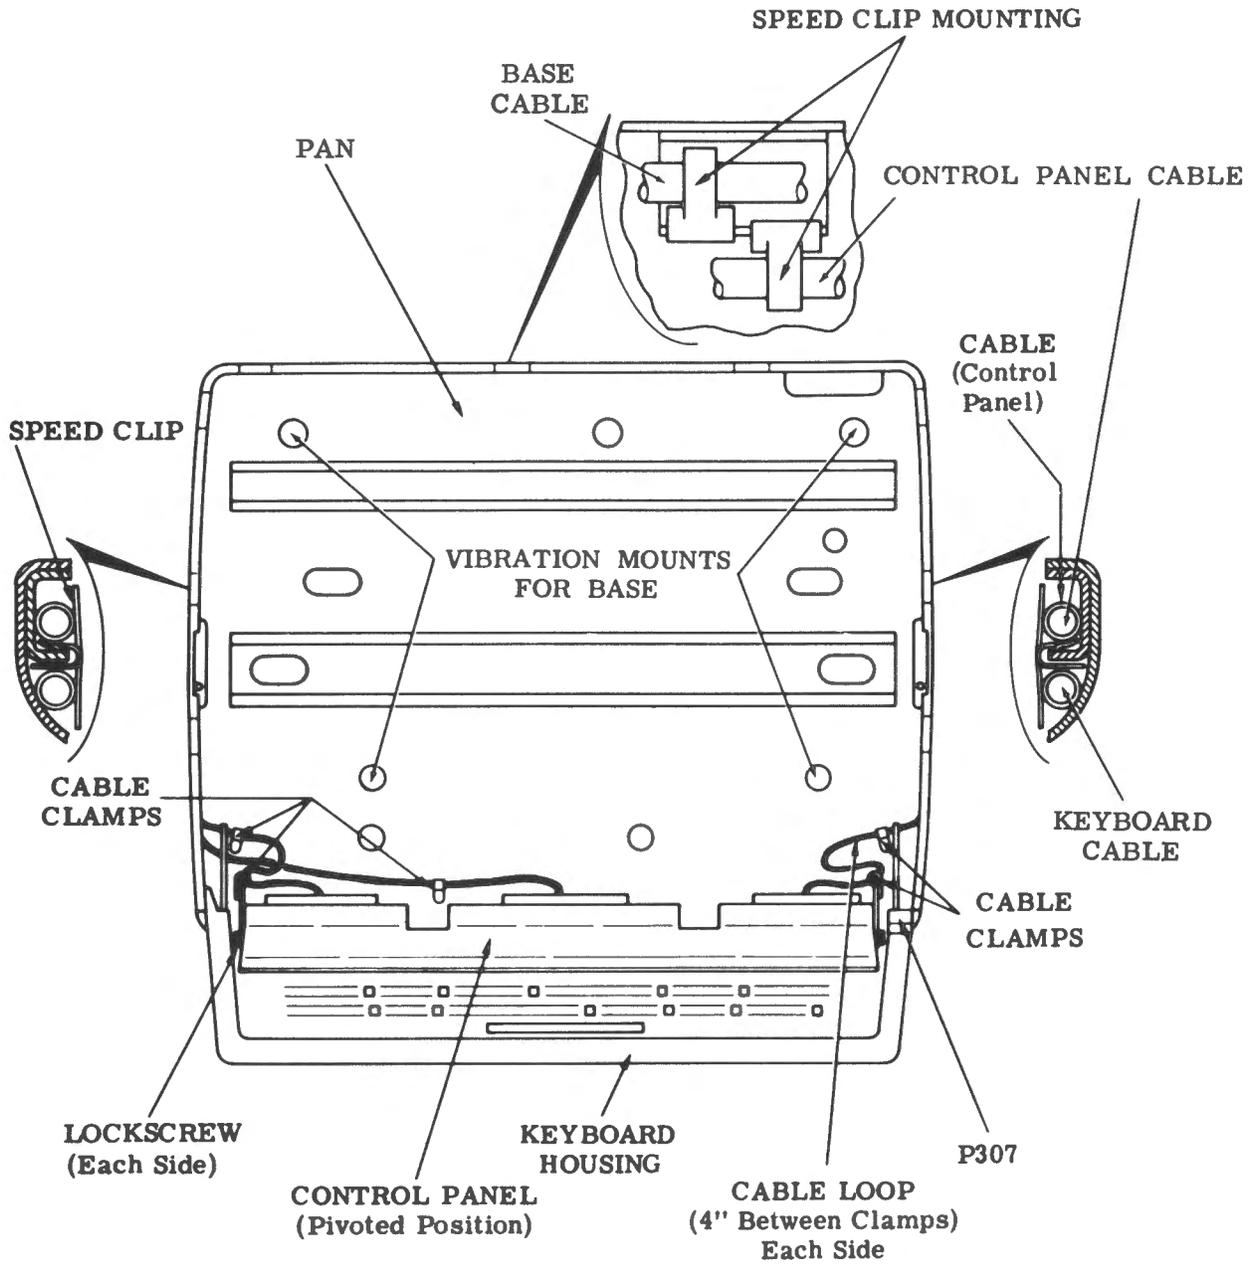

Figure 9 - Pan Cable Routing
2.15 To remove the typing unit cover and pan, from the table, proceed as follows (Figures 9 and 11).